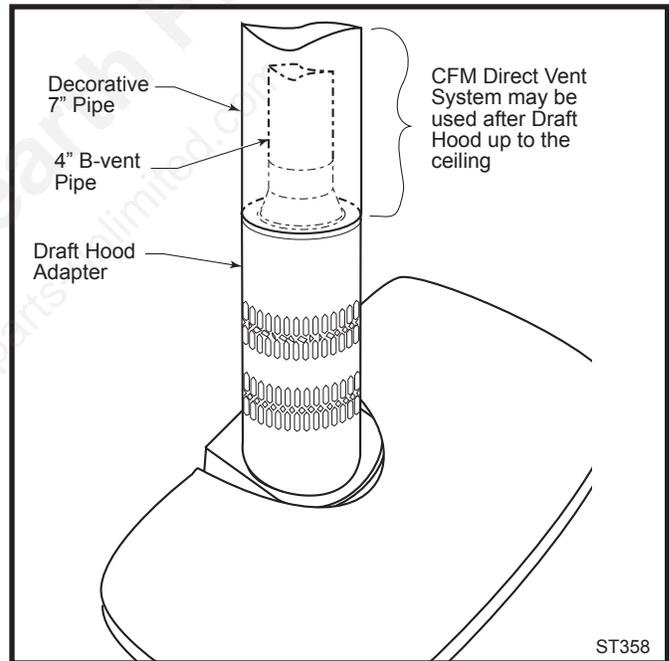

Fig. 32 Decorative 7" pipe may be fitted around the B-vent pipe.
2. Remove soil to a depth of approximately 16" (400mm) below the base of the snorkel. Install a window well (not supplied). Refill the hole with 12" (305mm) of coarse gravel and maintain a clearance of at least 4" (100mm) below the snorkel. (Fig. 32)
The Stardance Heater is approved for installation as a Natural Vent. CFM Direct Vent pipe could be used directly after the Draft Hood Adapter up to the ceiling, then B-vent pipe must be used. Do not mix types of B-vent pipe; use components from one maker or the other. Follow the vent component maker's instructions exactly. The heater will also accept standard or enamelled 7" (178mm) diameter pipe, around the Type B venting, for decorative purposes only. (Fig. 32)